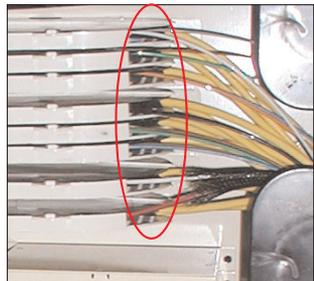

Fig. 35
- Mark the buffer tube and distribution pigtails at the point where they will be tied to the tray. Each tray will accommodate 24 splices (two buffer tubes and two distribution pigtails) (Fig. 35.-red circle).